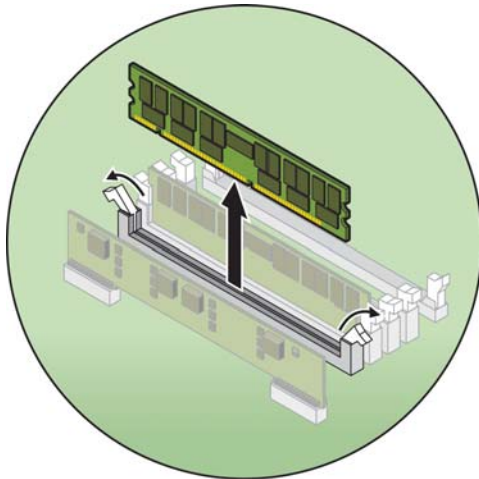

FIGURE 5-27 Removing a Memory Module
4. **Remove a memory module by pressing down on the ejector bars at both ends of the memory module’s socket (see FIGURE 5-27).**
6. Remove a memory module by pressing down on the ejector bars at both ends of the memory module’s socket (see FIGURE 5-27).